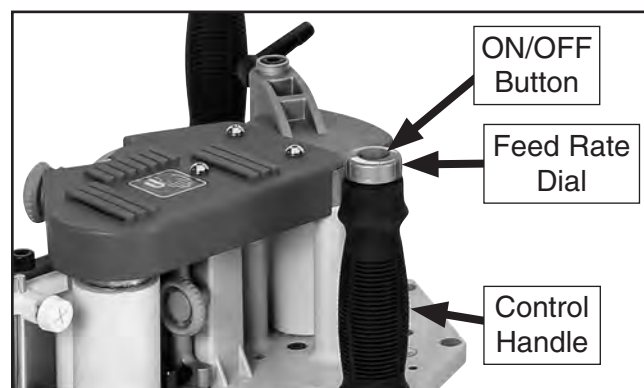

Figure 18. Location of control handle, feed rate dial, and ON/OFF button.
5. Press ON/OFF button on control handle (see **Figure 18**) to start feed rollers. Adjust feed roller speed setting by turning feed rate dial.